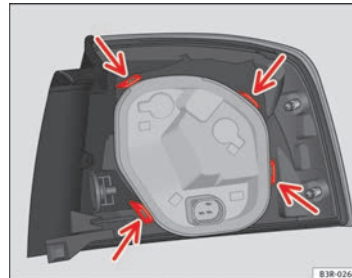

Fig. 228 Securing the bulb holder in the tail light unit
- Check that all four retaining tabs → Fig. 228 -arrows- have engaged.